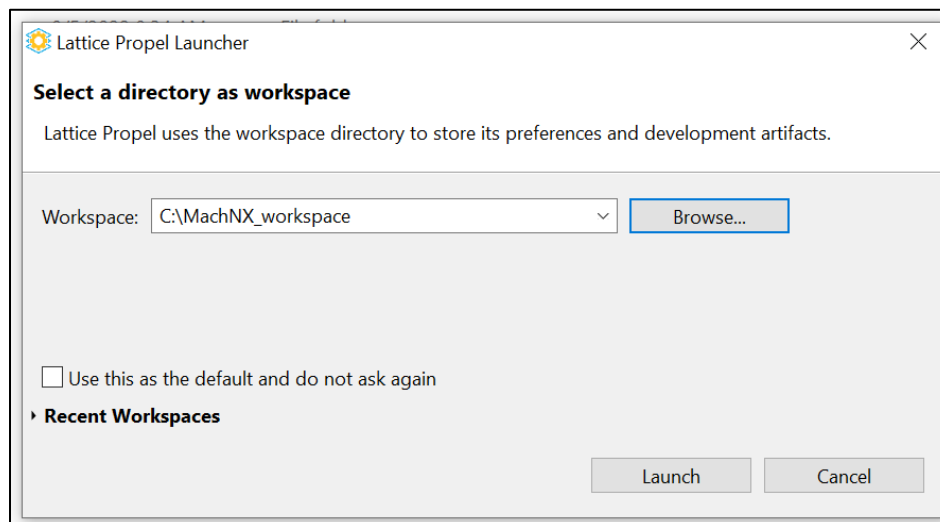

Figure 3.1. Lattice Propel Launcher
2. The **Lattice Propel Launcher** opens, as shown in Figure 3.1. Enter a directory or click **Browse** to indicate the folder or workspace where the project files will be created. For best results, the directory should be stored locally on your computer and not on a network. For example, use `C:\MachNX_workspace` for this demo.
3. The **Lattice Propel Launcher** opens. Enter a directory or click **Browse** to indicate the folder or workspace where the project files will be created. For best results, the directory should be stored locally on your computer and not on a network. For example, use `C:\MachNX_workspace` for this demo. See Figure 3.1.